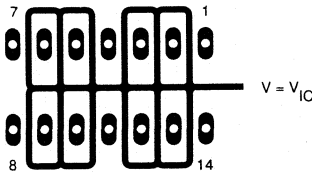

FIGURE 4. ISOLATION METAL AROUND DEVICE INPUTS
- 1 Isolate the device from other potential leakage sources. This can be achieved by using a grounded shield around and between the device inputs (see Figure 4). Leakages that would otherwise flow to the inputs will be shunted away.